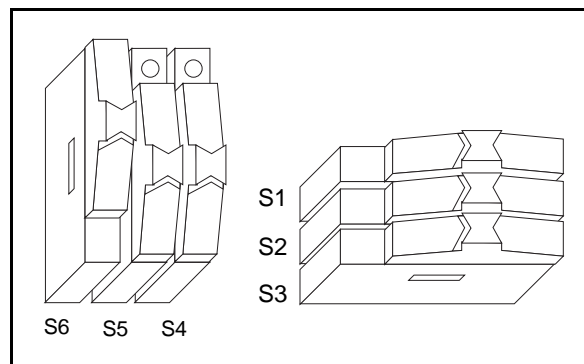

Figure 4. 100 Generic Screw Terminals Switch Configuration with Temperature Sensor and Accessory Grounds Disconnected
- For use with any 100-pin board, bypass all circuitry by switching S6 to the up position, as shown in Figure 4. The LED will not light in this configuration.